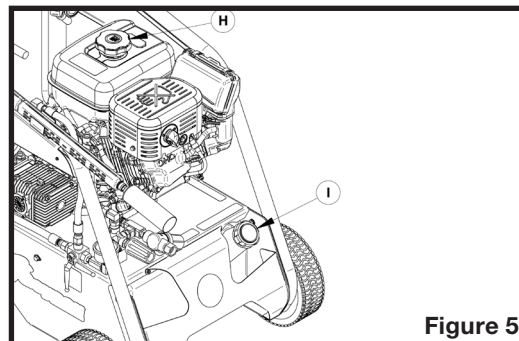

Figure 5
1. Remove the cap (H on figure 5) from the engine gas tank.
4. Remove the cap (I on figure 5) from the oil tank.